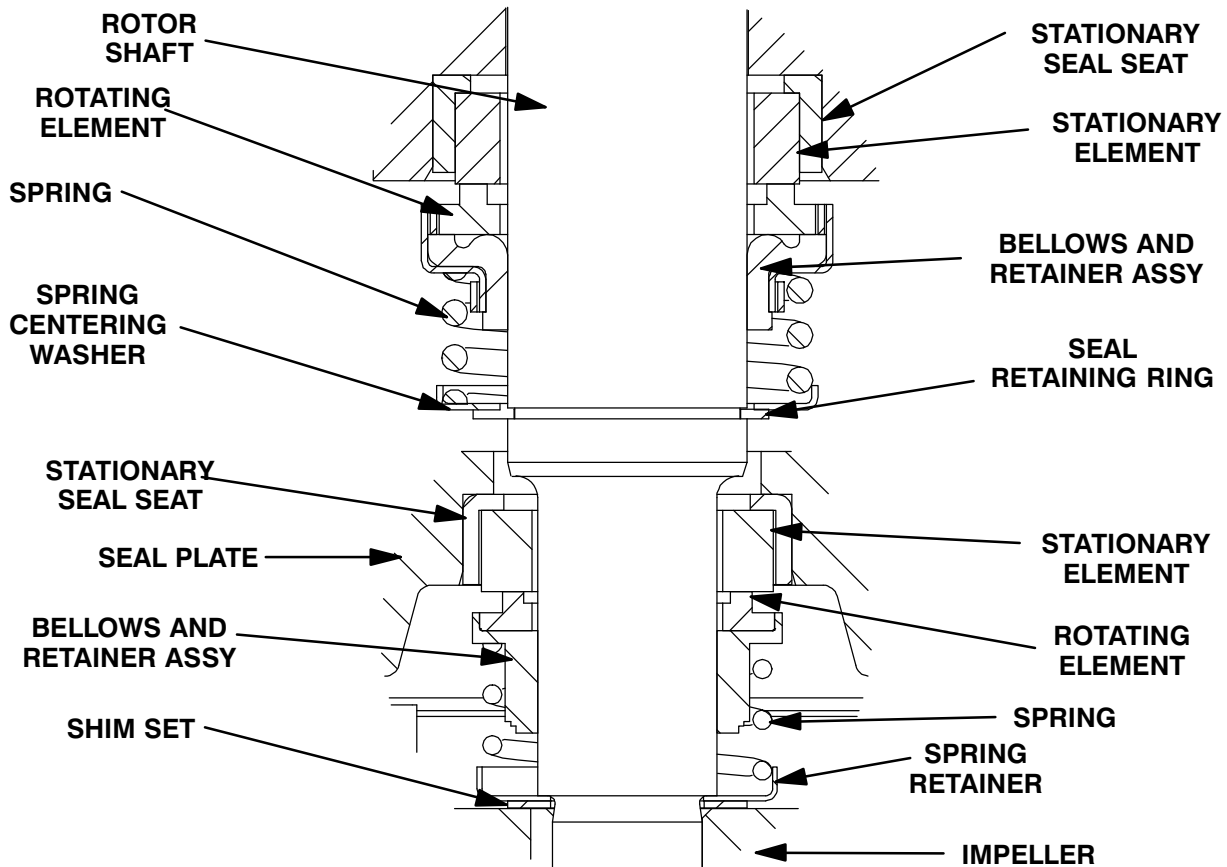

Figure E-3. Upper And Lower Seal Assemblies
Install the shaft seals as illustrated in Figure E-3.
Install the seal spring over the bellows retainer and install the spring retainer (18). See Figure E-3 for proper order of seal assembly.